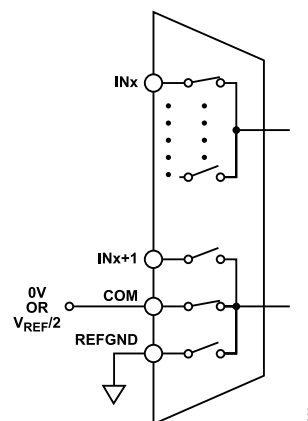

Figure 69. INx Paired with COM
- Figure 69, IN0 to IN7 paired with COM